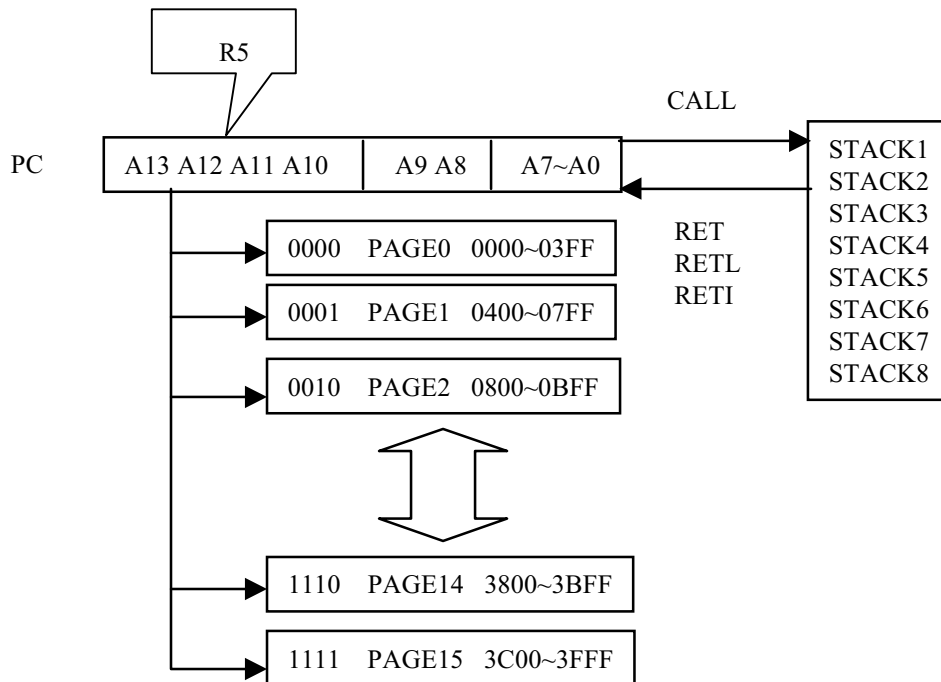

Fig.4 Program counter organization
- \* The structure is depicted in Fig. 4.